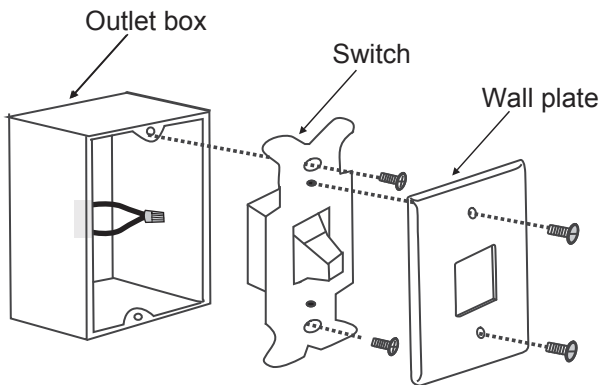

Fig. 25
**Step 1.** Remove the existing wall plate and the old switch from the wall outlet box. Wire nut the **BLACK** leads (hot) together and push back inside the outlet box. (Fig. 25)